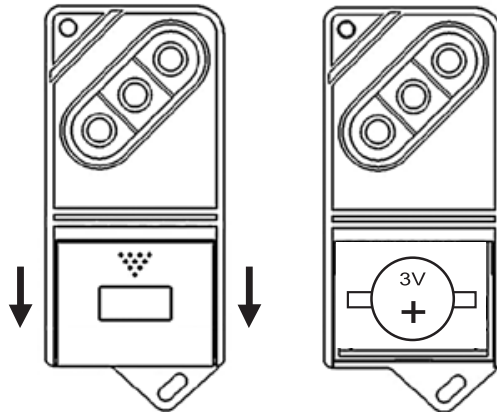

Figure 1
2. Press the **Test** button on the Remote Control until the red light comes on. The red light indicates a radio frequency (RF) signal is being sent (if this does not work, remove the battery (see Figure 1), hold down the **Test** button for 10 seconds and then re-install the battery). The Smoke/Heat Alarms should respond within 20 seconds once they are within range (typically the range is over 10 metres indoors but this will depend on the type of walls etc.).
Slide cover back (as shown in *Figure 1*) and remove the battery. Press the **Test** button for 10 seconds and then replace with a new Lithium 3 Volt Cell type DL2032 or CR2032. Ensure battery orientation is correct as shown in *Figure 1*.